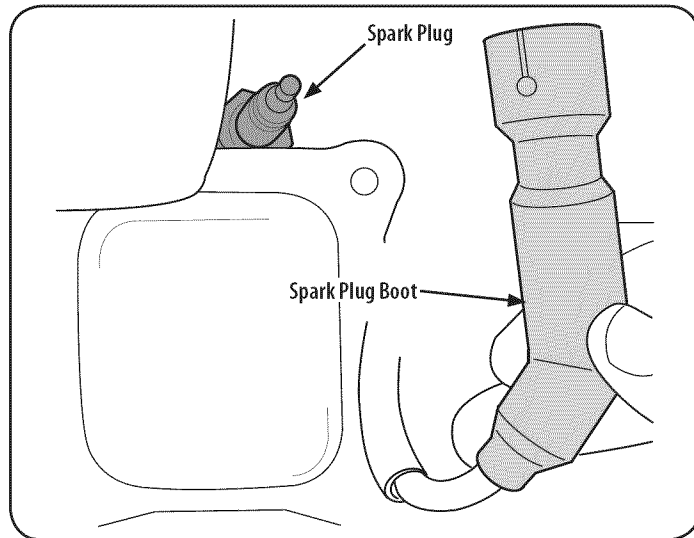

Figure 12
- Remove the spark plug boot and use a spark plug wrench to remove the plug. See Figure 12.